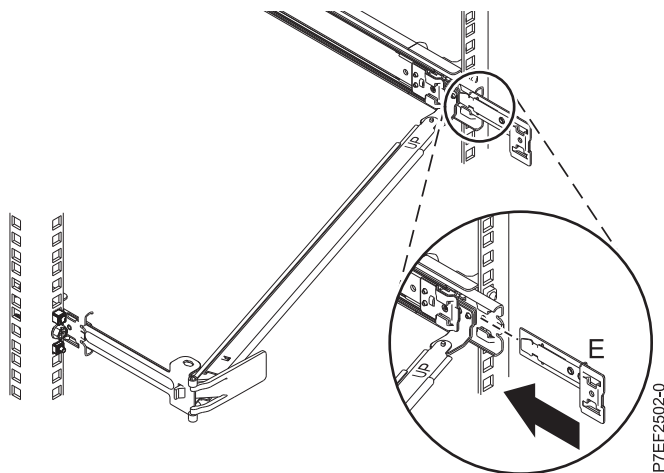

Figure 13. Installing the extension bracket into the slide rail
5. Slide the extension bracket (E) into the right slide rail until the spring-loaded pin snaps into place. For details, see Figure 13.